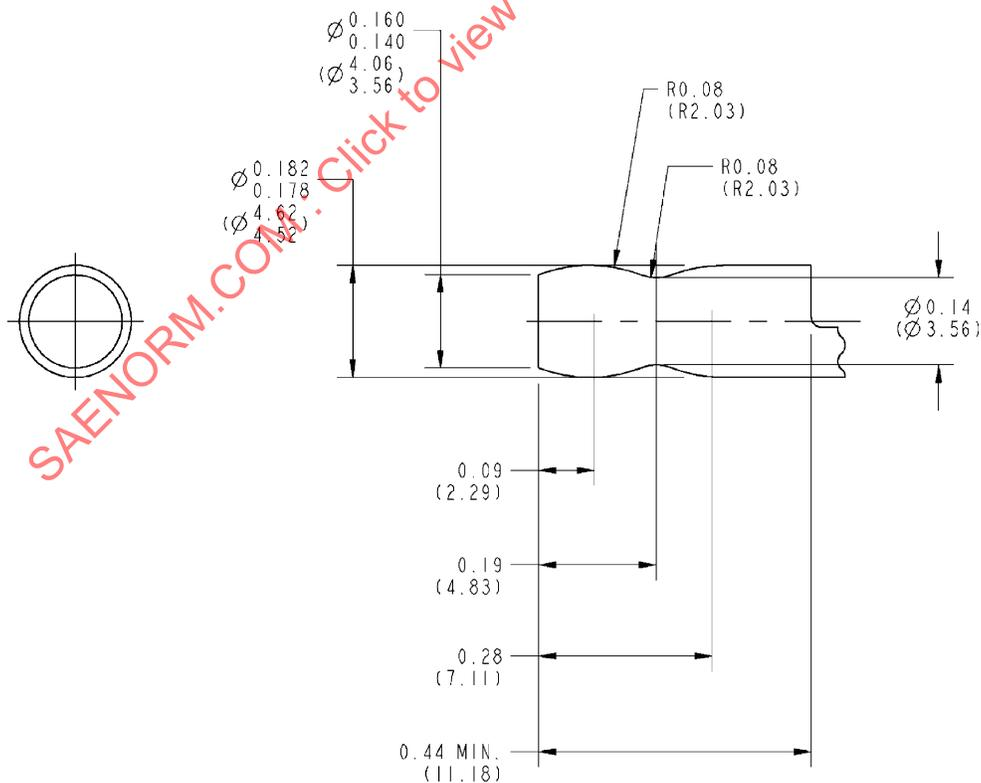

FIGURE 4—PIN
- 6.3 The terminal pins and receptacles sockets shown in Figures 1, 2, and 3 shall conform to the size and type shown in SAE J928, TABLE 1—TYPE 1 PIN TERMINALS with a nominal diameter of 4.57 mm (0.180 in). Detailed pin and receptacle dimensions are illustrated in Figures 4 and 5.